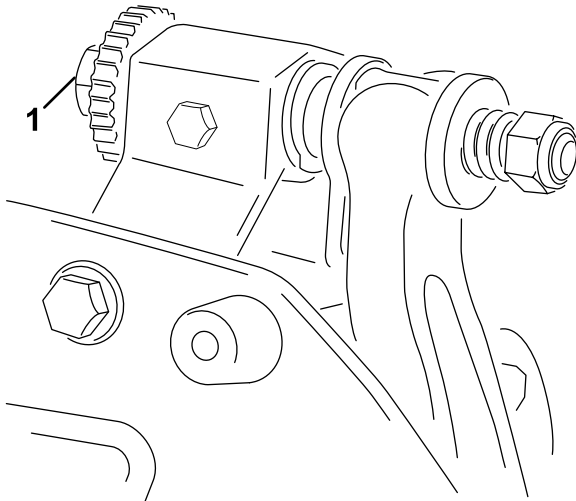

Figure 10
- A. Turn the bedbar adjusting screws clockwise (Figure 10), 1 click at a time, until you feel and hear light contact.
6. Turn the right bedbar adjusting bolt (Figure 10) until you feel light pressure on the shim when sliding it side-to-side. Remove the shim.